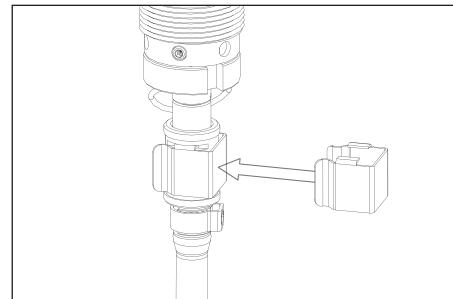

Fig. 8.3 Installing the securing clip
- 7. Secure the coupling using the securing clip supplied with the water heater (see fig. 8.3). **PLEASE NOTE:** the clip must click around the coupling's house nicely. Check whether the connection has been made correctly by gently pulling on the hose.